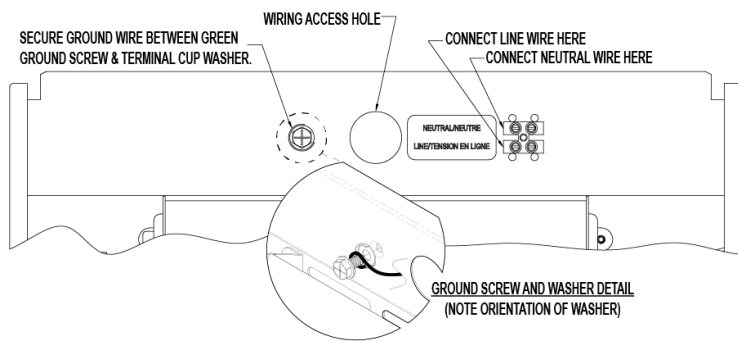

Figure 7: Wire Routing
- Route electrical cable through the wiring access hole to the terminal block. See Figure 7.
- Secure ground wire underneath green ground screw. Ensure that ground wire is secured and retained within the terminal cup washer provided. See Figure 7.